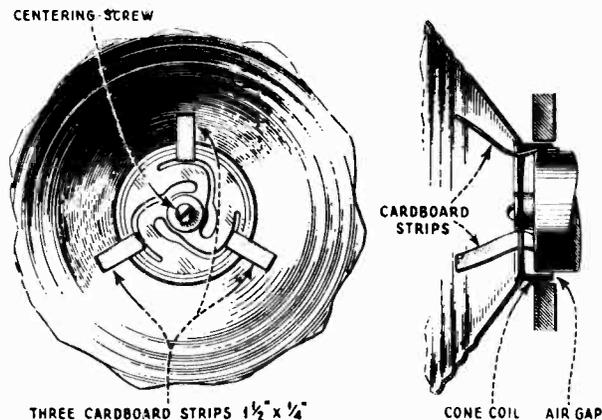

Figure 16—View of Strips in Place for Centering Cone
- (e) Place three pieces of cardboard the thickness of a visiting card and approximately $1\frac{1}{2}$ " x $\frac{1}{4}$ " in size in the space between the inside of the cone coil and the pole piece. See Figure 16.